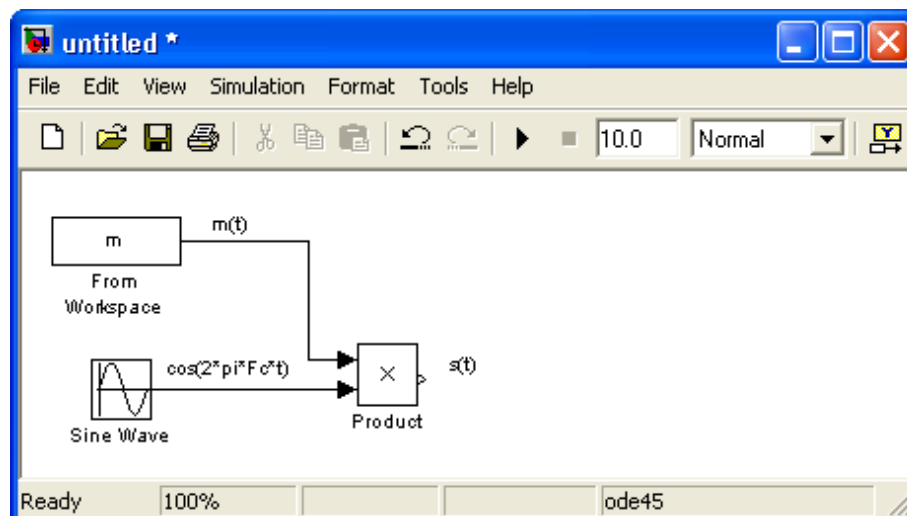

Figure 17: Design Window Showing Annotated Model
3. You can label or annotate the model by double clicking the left mouse button at the desired location in the design window and then typing the label (to label a signal line double click on the line). Label the model as shown in Figure 17.